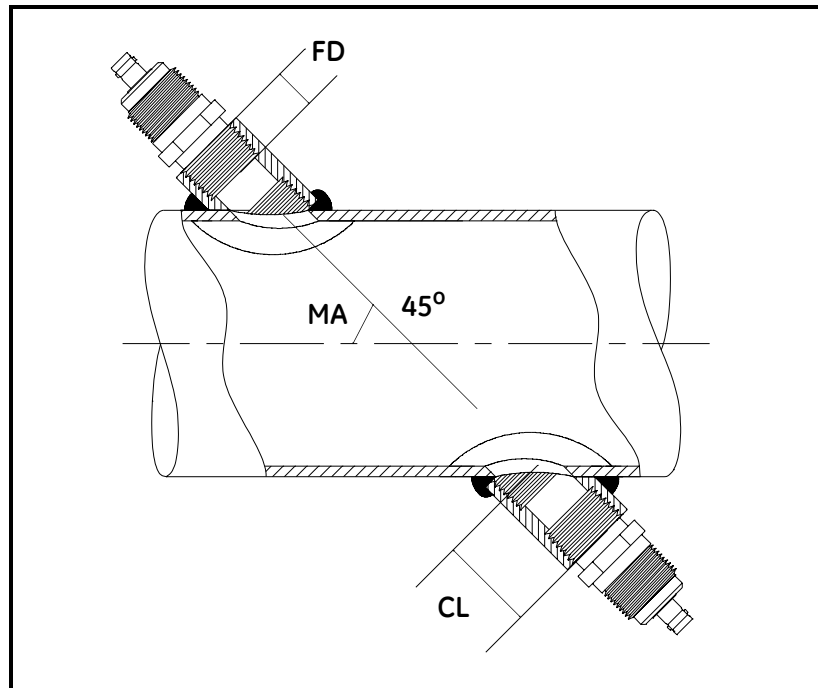

Figure C-2: Determining the Pipe Coupling Length
- the pipe inside diameter (ID)
- the wall thickness (WT)
- the installed pipe coupling length (CL)
- the transducers face depth (FD)
- the mounting angle (MA)
Measuring P and L (cont.) Use Figure C-2 below to properly measure the coupling length. Typically, the transducer face is positioned just outside the inside diameter (ID) of the pipe, or slightly retracted inside the coupling.